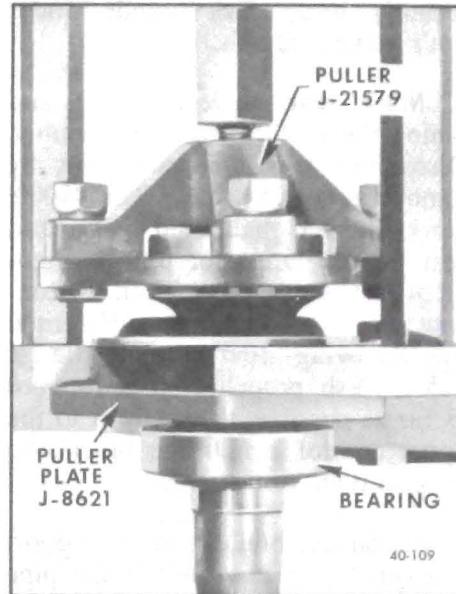

Figure 40-128 Removing Axle Shaft Bearing
2. Press axle shaft bearing off, using Puller Plate J-8621 with Remover J-6525 either in a press or in a set-up using Ram and Yoke Assembly as shown in Figure 40-128.